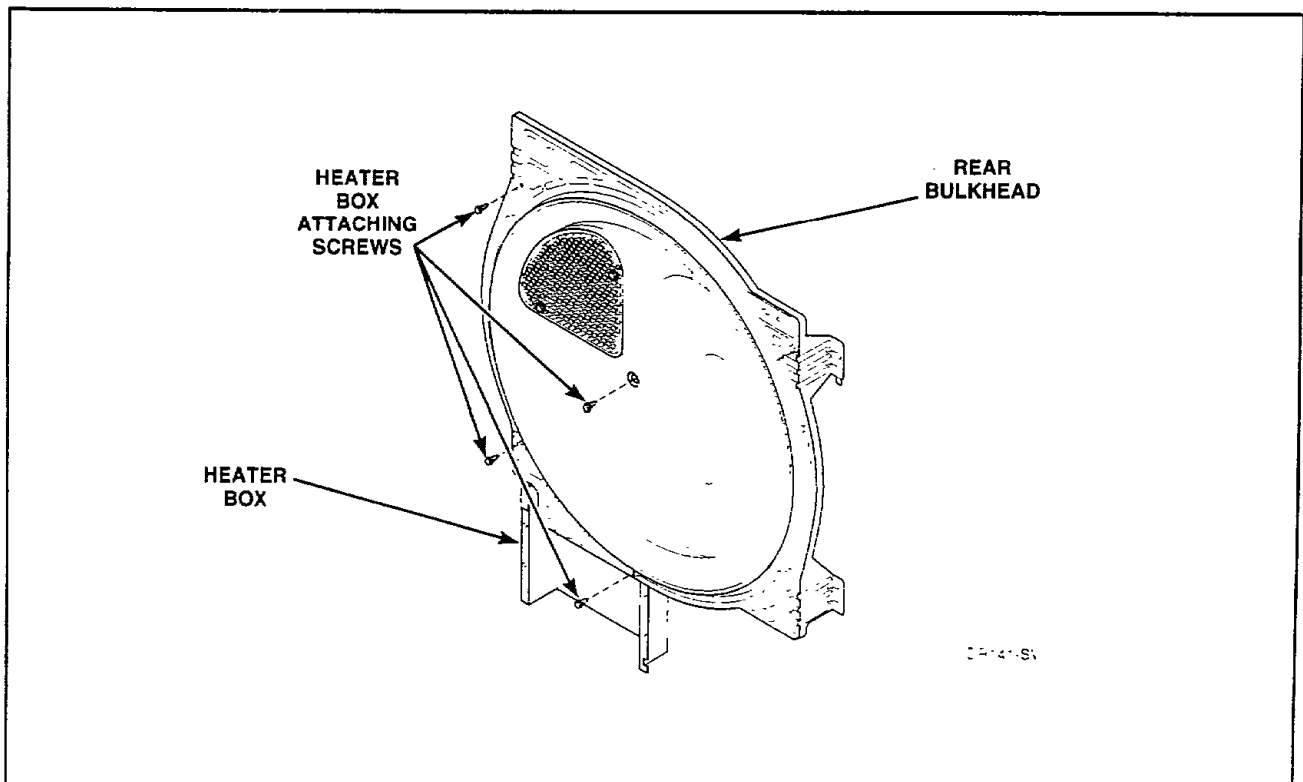

Figure 42
- n. To remove heater box from rear bulkhead, refer to *Figure 42*.